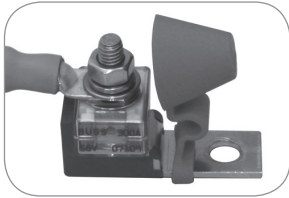

Fig. 8. Insulating Cap slid over the rectangular portion of CFBAR
D. Slide the Insulating Cap onto the rectangular strip of the CFBAR and then insert the hood portion onto the exposed portion of the stud of the CFBAR. See Figures 8 and 9.